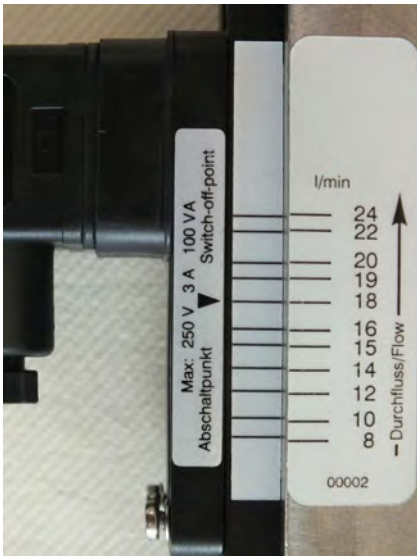

Fig. 35: Reading-off the switch point (example)
1. Make sure that the setting arrow, the scale mark on the additional label on the guide rail and the scale mark of the switch point adjustment scale are in alignment. (Fig. 35)